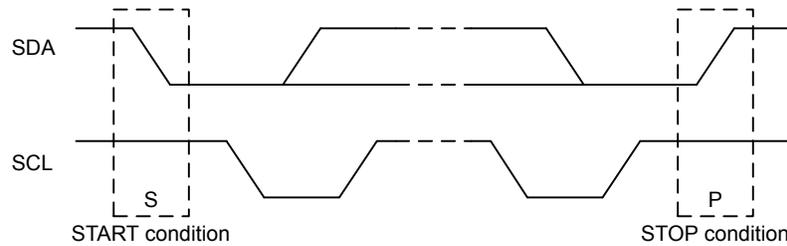

Figure 21.4. I²C START and STOP Conditions
START and STOP conditions are used to initiate and stop transactions on the I²C-bus. All transactions on the bus begin with a START condition (S) and end with a STOP condition (P). As shown in Figure 21.4 I²C START and STOP Conditions on page 666, a START condition is generated by pulling the SDA line low while SCL is high, and a STOP condition is generated by pulling the SDA line high while SCL is high.